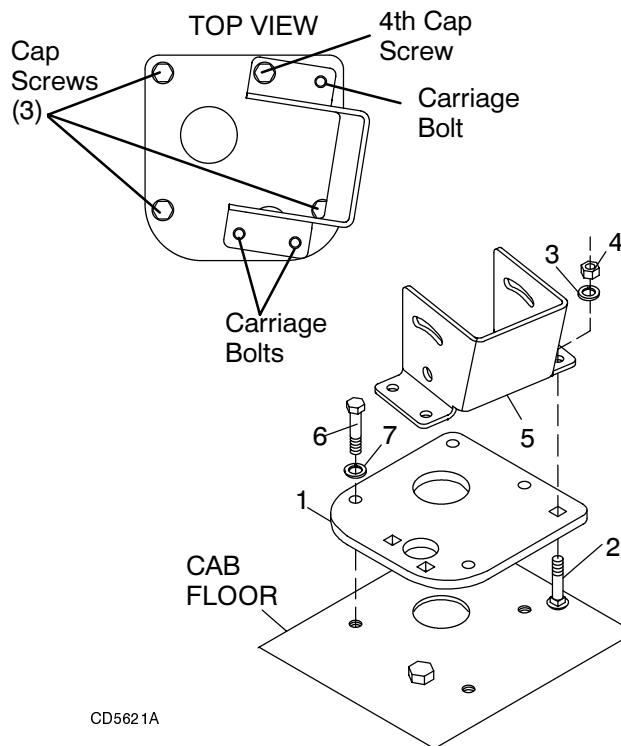

Figure 26 Control Stand Bracket
2. Insert three carriage bolts (2) into the adapter plate (1) as shown in Figure 26.
3. Position the adapter plate over the holes in the cab floor and install cap screws (6) and lock washers (7) as shown in Figure 26. Torque to specifications given.
5. Install fourth cap screw as shown in Figure 26.